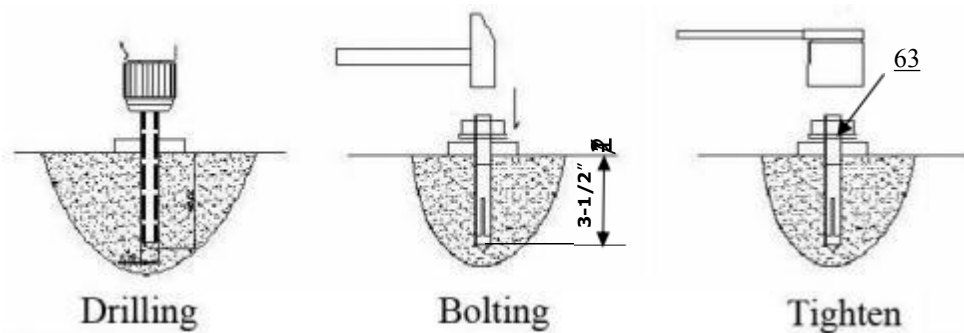

Fig. 17
2. Using the prescribed rotary hammer drill, and drill all the anchor holes and install the anchor bolts. Then tighten the anchor bolts (See Fig. 17).